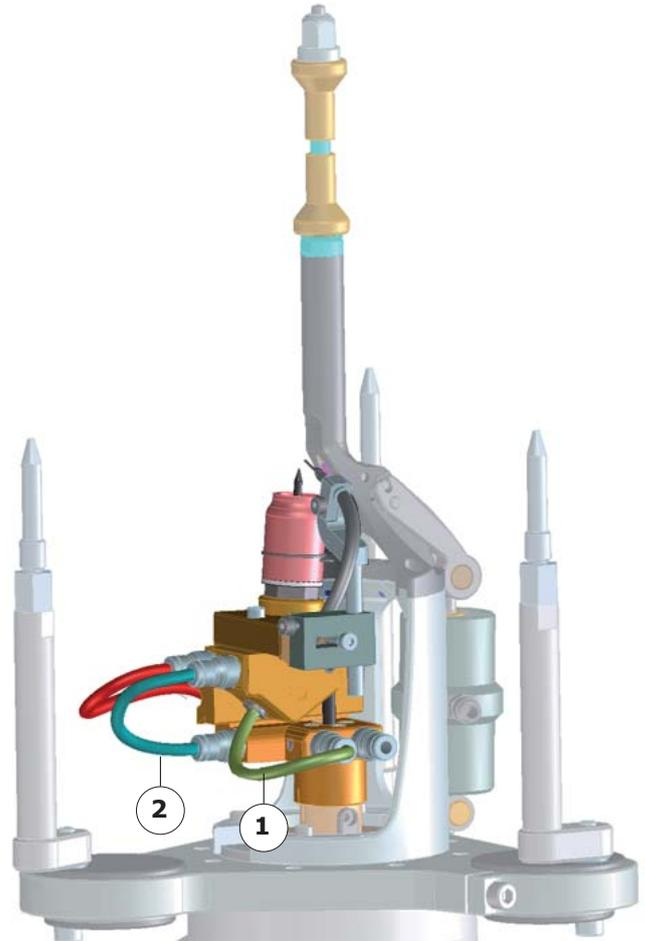

Fig.5.22 - Connecting a water-cooled torch kit
- Gas feed (Fig.5.22 - 1).
- Cooling system feed (Fig.5.22 - 2).
- Cooling system return (Fig.5.22 - 3).